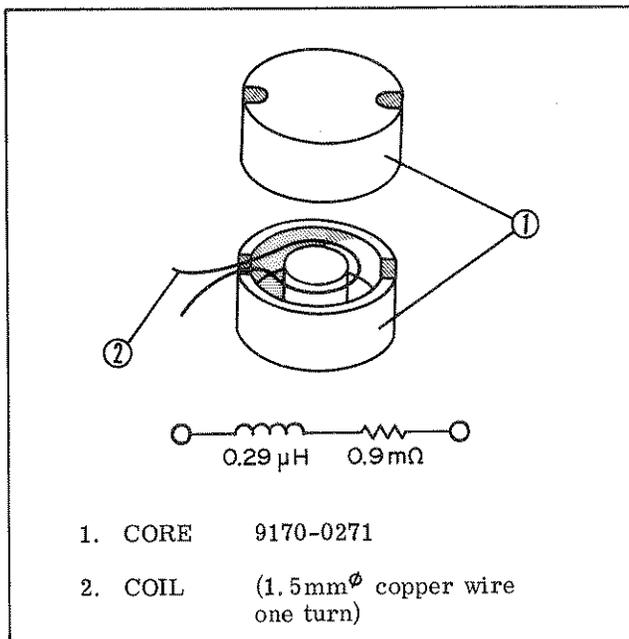

Figure 5-2. (0.9m Ω + j1.8m Ω) Impedance
- a. Set the Model 4328A range to $1\text{m}\Omega$ and measure an impedance of $(R + j\omega L)$ as shown in Figure 5-2, where R should be calibrated by DC bridge and the reactance value twice that of R.